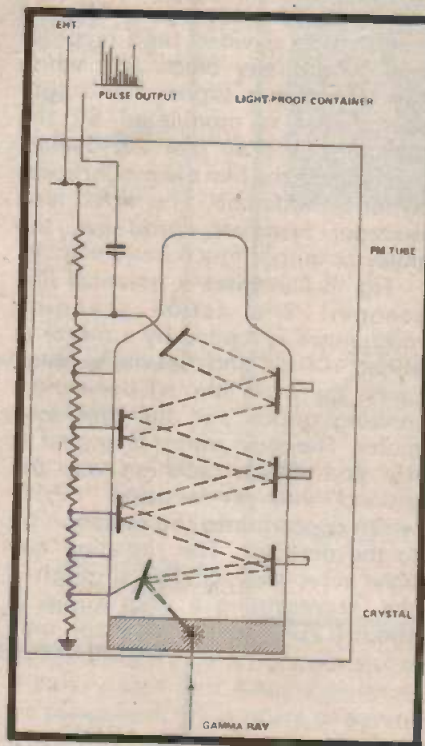

Fig. 1. Scintillation Detector Head.
The scintillations are amplified in a photo-multiplier (PM) tube which is in direct contact with the crystal. This assembly is then mounted in a light proof container. The process of amplification begins when photons emitted during a scintillation strike the photo-cathode and displace a quantity of electrons. Due to the voltage arrangement of the PM tube plates these electrons are drawn to the next cathode in the tube where they displace a greater number of electrons. In turn these strike the next cathode and so on up the cathode chain until the output appears as a voltage pulse at the anode. The combination of crystal and PM tube is termed a detector head and is shown in Fig. 1.